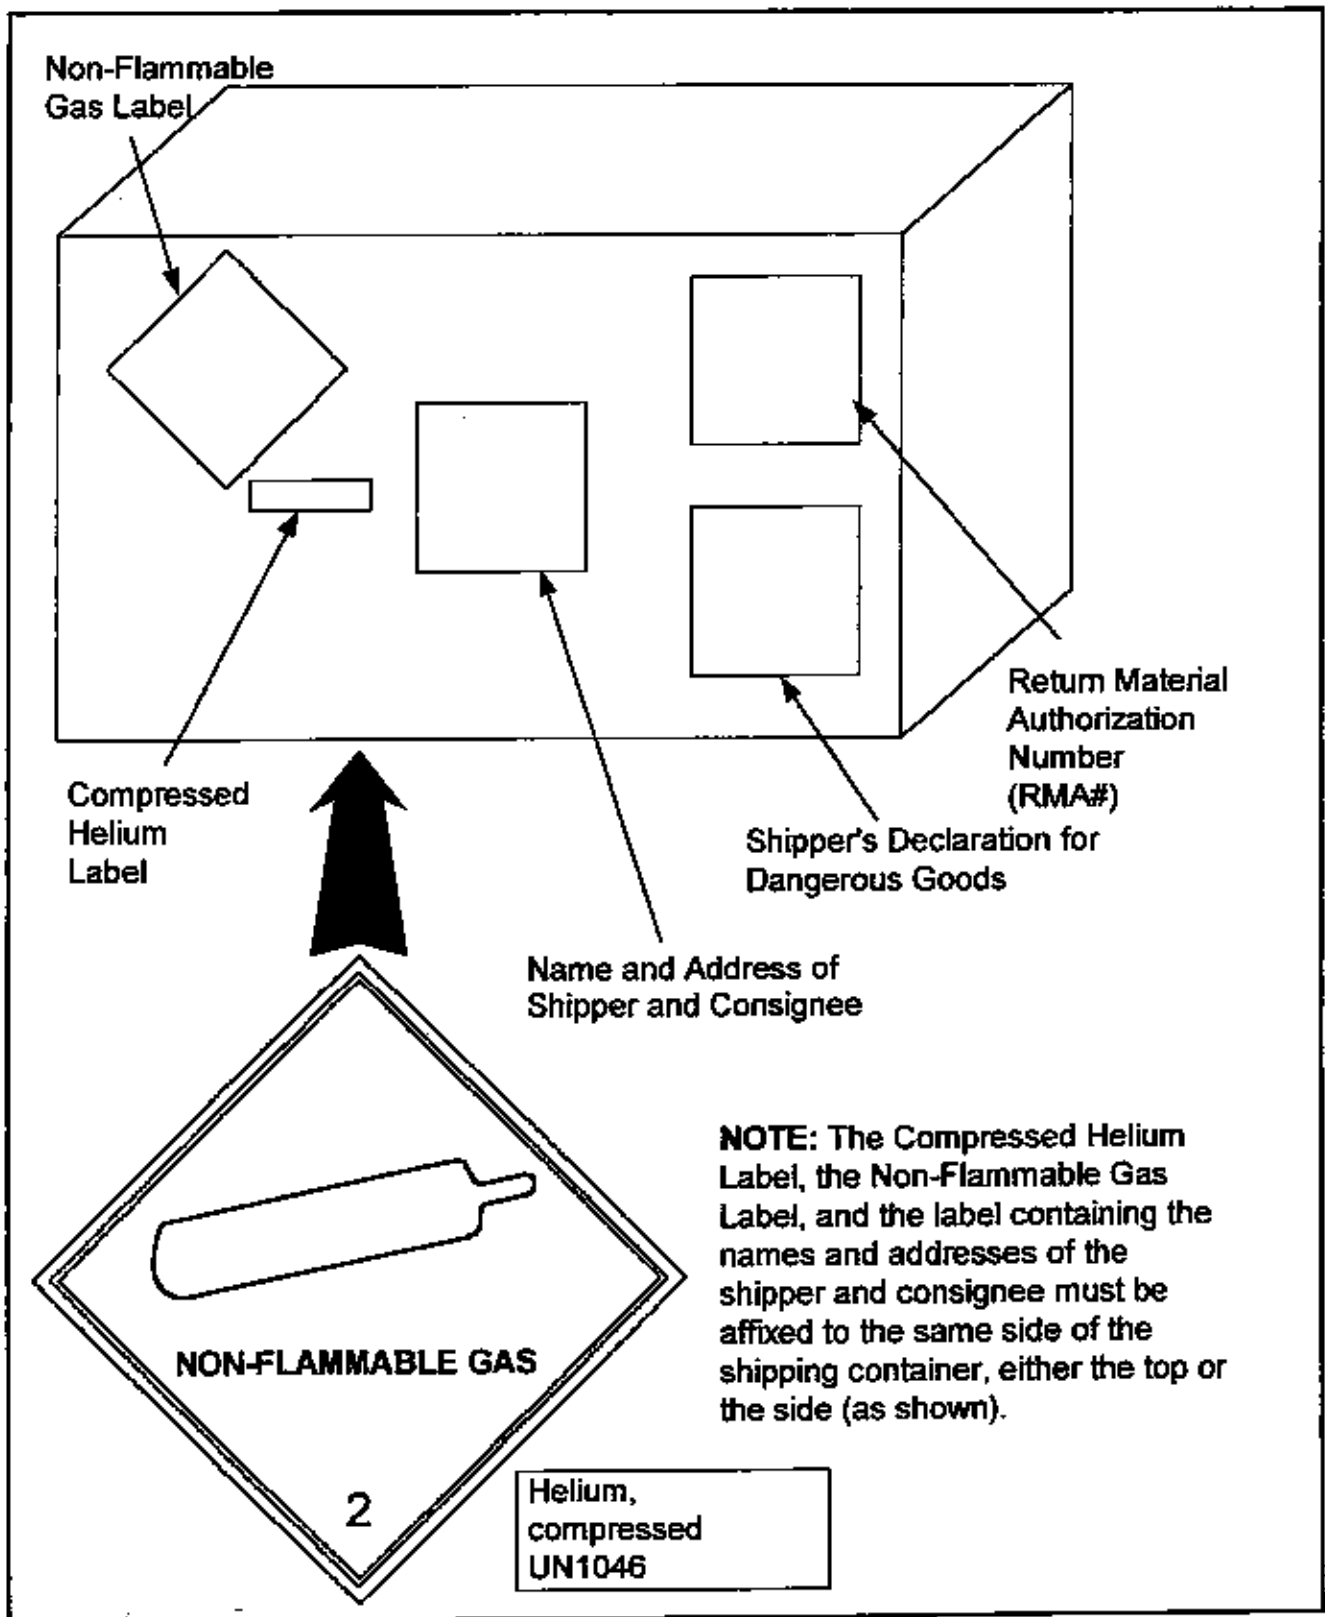

Figure 22. Outer Packaging Marking and Labeling Requirements
Prior to returning a SuperFilter, contact STI for a Return Material Authorization (RMA) number. When requesting an RMA number, provide the model number, serial number, and as much information as possible about the return. After a return has been approved, an RMA number will be issued. The RMA number must be marked on the shipping container as shown in Figure 22.
10.	Fill out a Shipper's Declaration for Dangerous Goods form and affix the form to the outside of the shipping container. See Figure 22.
11.	Affix a Compressed Helium Label and a Non-Flammable Gas Label to the outside of the shipping container. Also, include the RMA number on the outside of the shipping container. See Figure 22.